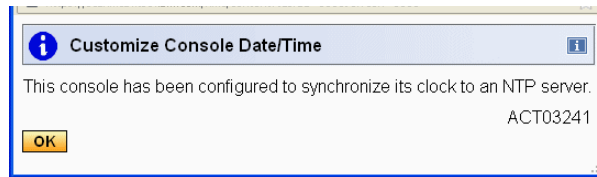

Figure 1-19 NTP server enable confirmation message ACT03241
- Select **Yes** to synchronize this HMC to the NTP server. Message ACT03241 confirms the attachment to the NTP server (Figure 1-19 on page 14). Select **OK**; this closes the Customize Console Date/Time panel.